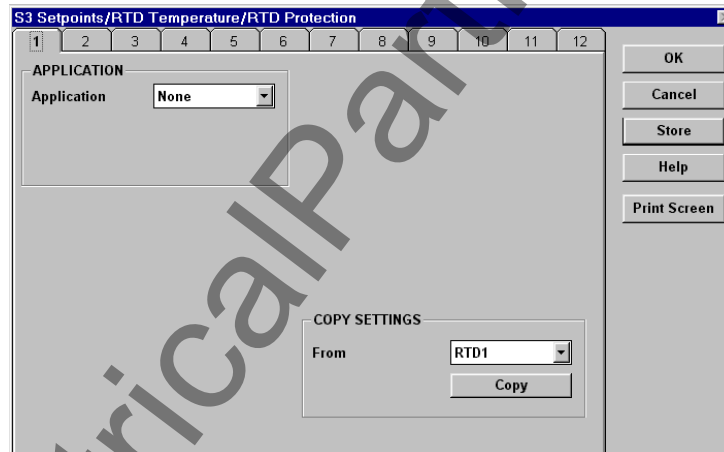

Figure 3–2: RTD PROTECTION WINDOW
2. If the RTDPC is communicating, select the **Communication > Computer** menu item to launch the COMMUNICATION/COMPUTER window (see Figure 3–1: COMMUNICATION / COMPUTER WINDOW on page 3–2) and set **Communicate** to "Off". Click **OK** to turn off communications to the relay and place RTDPC in "Editing File" mode.